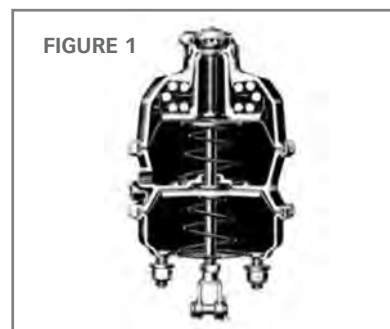
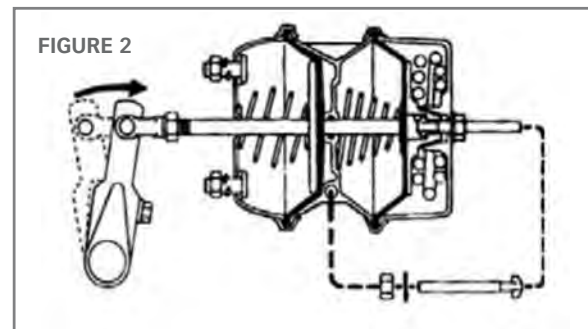

FIGURE 1
FIGURE 2
3. Determine whether the chamber has an internal (Figure 1) or external (Figure 2) caging tool. Proceed to step 4 with an externally mounted tool. Step 8 for internal types.